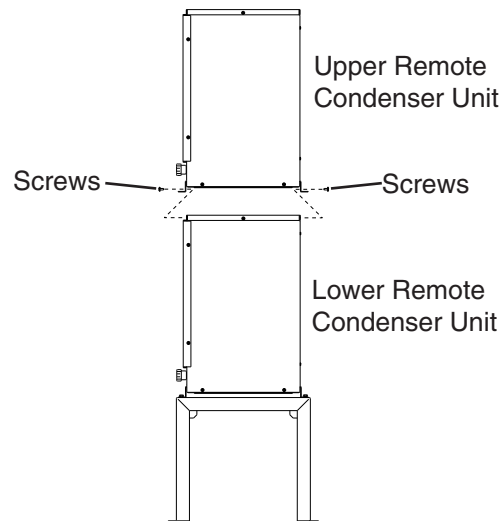

Fig. 10
- 2) Place the upper remote condenser unit on top of the lower. See Fig. 10.